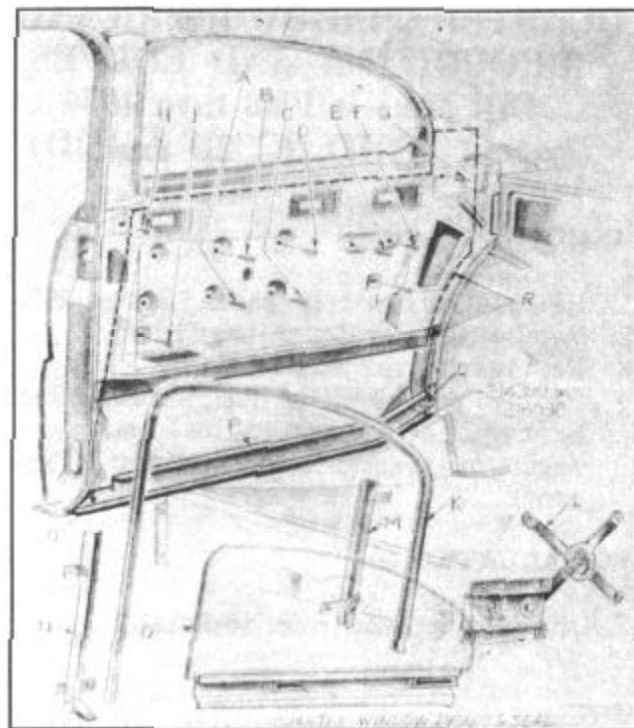

FIGURE 72
**NOTE: If there is evidence of a water leak at the area around the rear seat and it has been determined that the door seals and drain troughs have been properly sealed, check the sealer at the drain baffle located below the rear quarter window at the top of the body frame rail and seal along the base of the baffle applying body sealer in the areas shown in Figure 72.**
4. Remove the glass run (K), Figure 72. (With window down, pull top of channel inward and upward to remove.)
5. Remove the rear quarter glass (O). (Guide top of glass inward and turn up until regulator arms are above inner panel. Disengage regulator arm roller (L) from glass and channel as an assembly.)
11. Remove the regulator screws (A), (B), (C), (D) and (E).
12. Remove the regulator guide channel screws (E) and (F).
13. Remove the glass run channels (M), (N), screws (G), (H), (I) and (I).